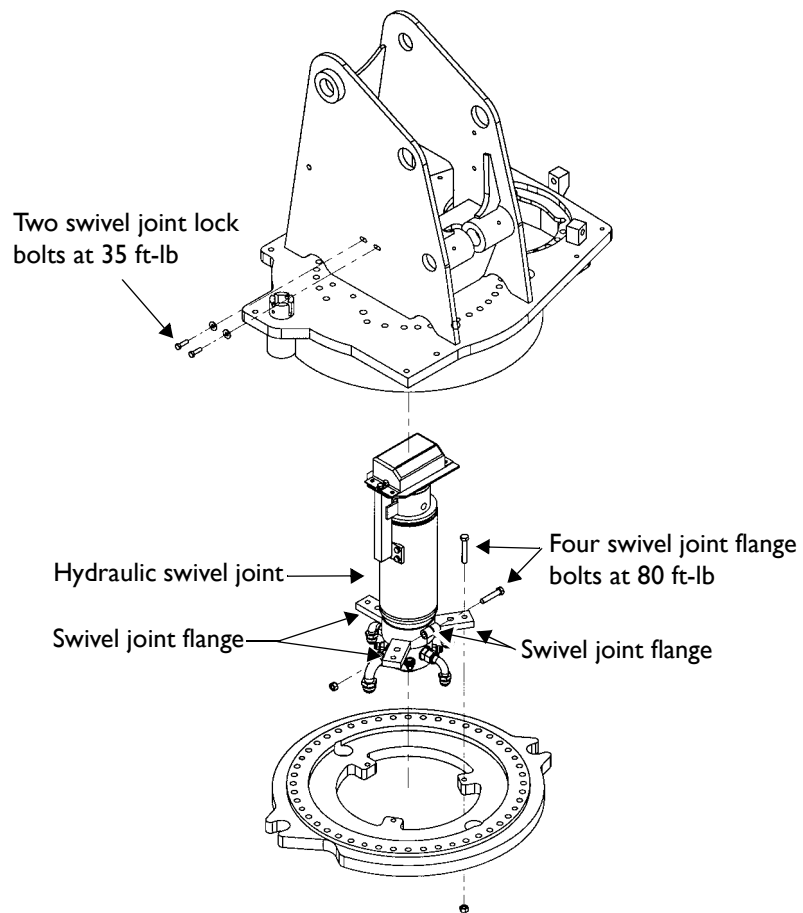

Figure 22
2. Check the two sets of swivel joint bolts shown in *Figure 22*, below, for the correct torque values.